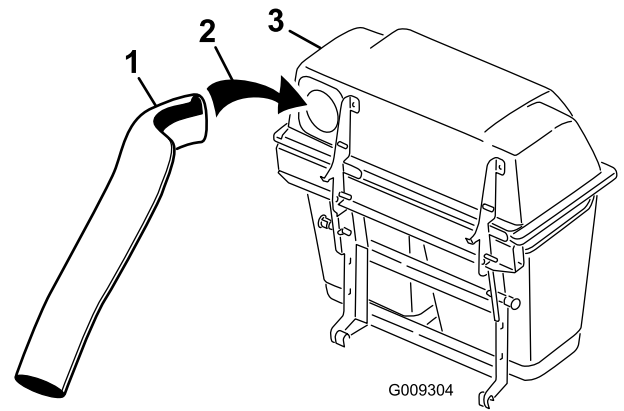
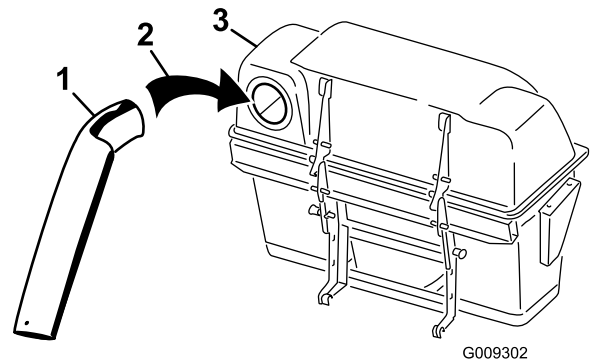

Figure 22
Figure 23
5. Install the upper tube into the bagger opening and pull it back out so that the rubber seal is protruding out (Figure 22 or Figure 23).